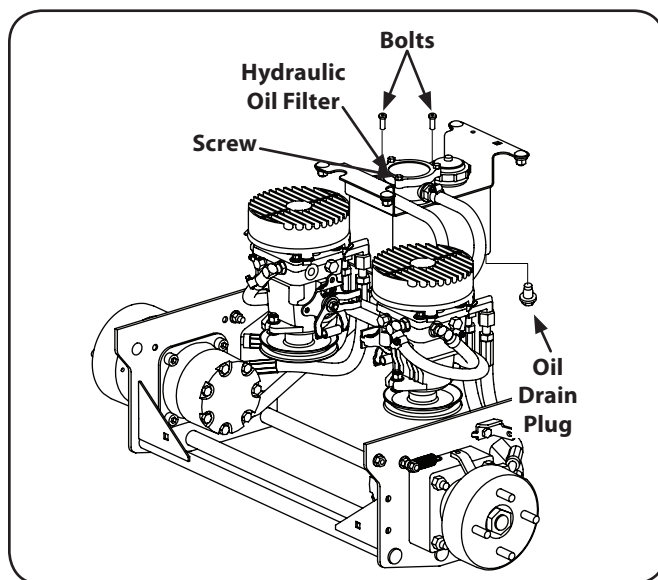

Figure 6-3
7. Remove the two bolts securing the hydraulic filter and allow the hydraulic oil to drain. Remove the drain plug from the bottom of the hydraulic oil tank to drain. Replace the plug. See Fig. 6-3.
8. Place a small pan under the pump motor frame. Remove fill oil cap from hydraulic reservoir for faster drainage. Remove nut caps and drain oil from both left and right pumps. Replace and retighten nuts. See Fig. 6-3.